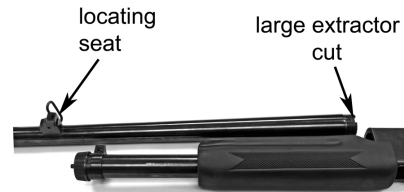

FIGURE 8
5. Rotate the barrel clockwise $\frac{1}{4}$ turn and then pull straight out, removing it from the receiver (see FIGURE 8).
3. With the muzzle pointing away from you and the LOCATING SEAT and LARGER EXTRACTOR CUT pointed to the left (see FIGURE 8), carefully insert the barrel into the receiver opening.